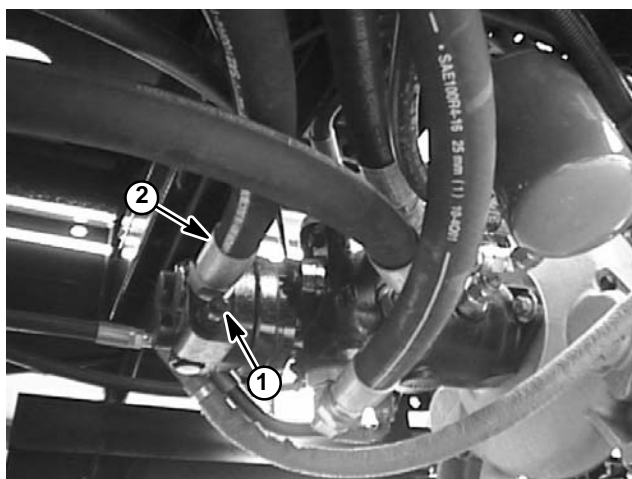

Figure 18
10. If relief pressure is incorrect, inspect for worn, stuck, or out of adjustment relief valve. Steering relief valve is located under the suction hose on the right side of the gear pump (Fig. 18). For adjustment procedure, see Adjust Relief Valve in the Adjustments section of this Chapter. After adjustment, retest relief valve pressure.